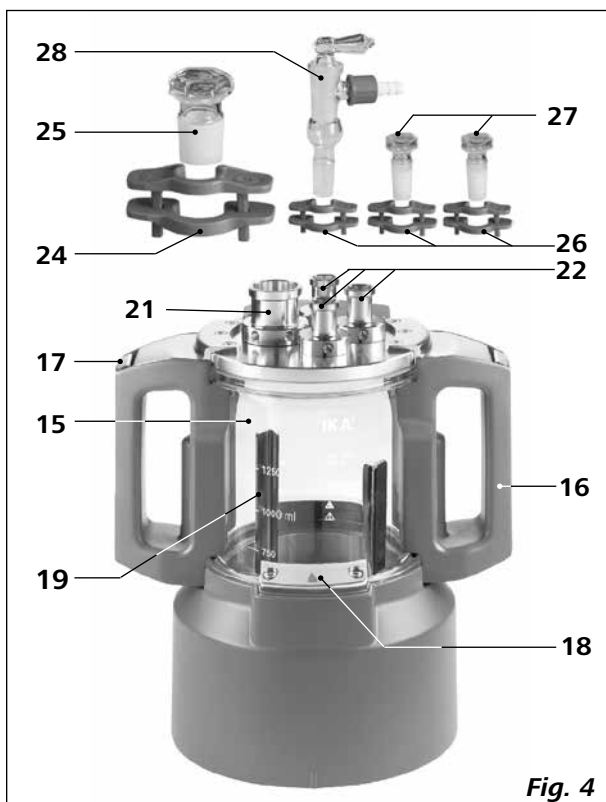

Fig. 4
- Reactor vessel **LR 1000.1** (see Fig. 4)